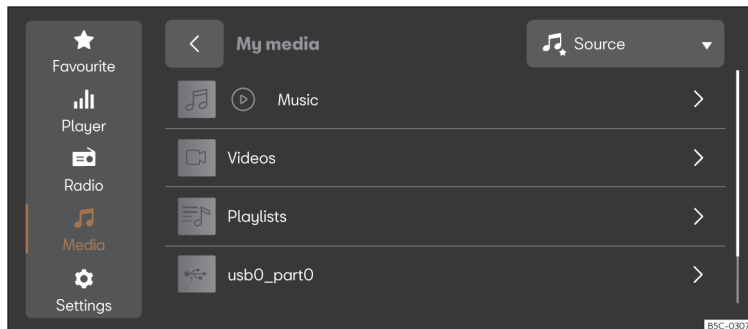

Fig. 178 Schematic representation: Media view
- Press **MENU** > > > > > **Fig. 178**.